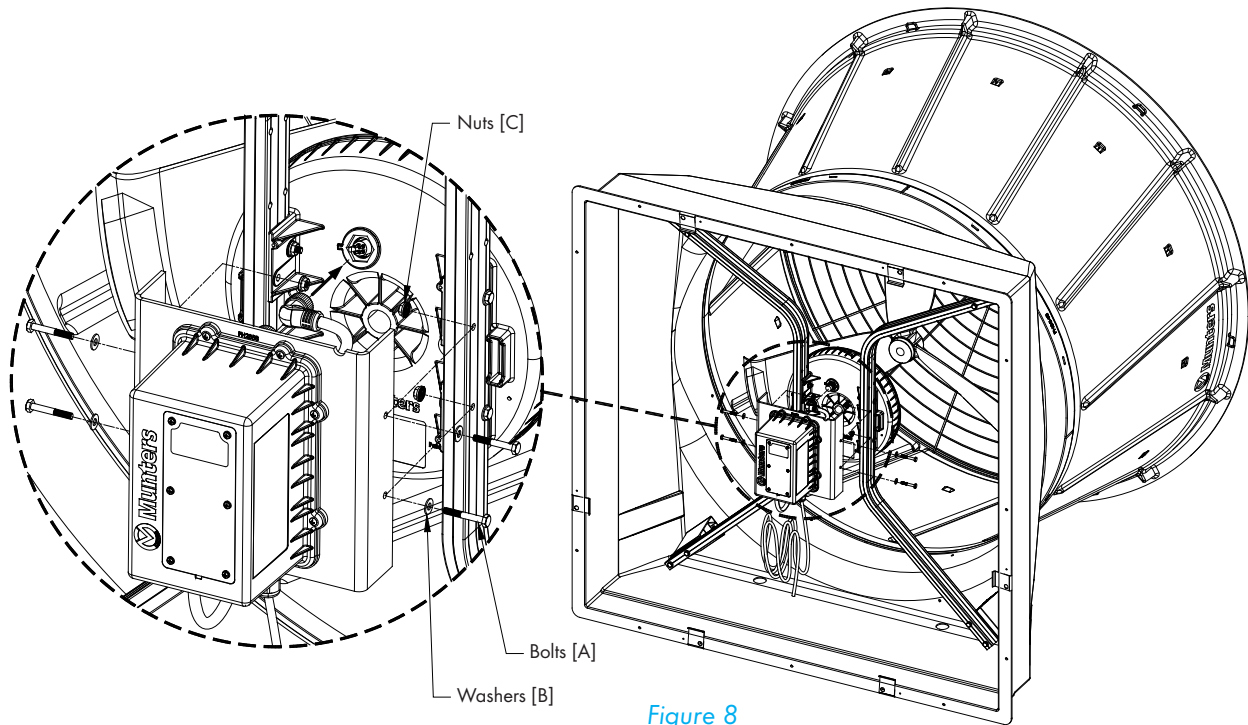

Figure 8
Remove the inner 2 bolts and nuts from each strut farthest from the Motor and discard. Carefully pull the Munters Drive controller out of the packaging and reconnect the quick connect connector to the motor. Slide the controller with bracket over the struts so that the 2 holes in each strut line up with the holes in each side of the controller bracket and fasten with (4) Bolts [A], Washers [B] and Nuts [C]. See Figure 8.